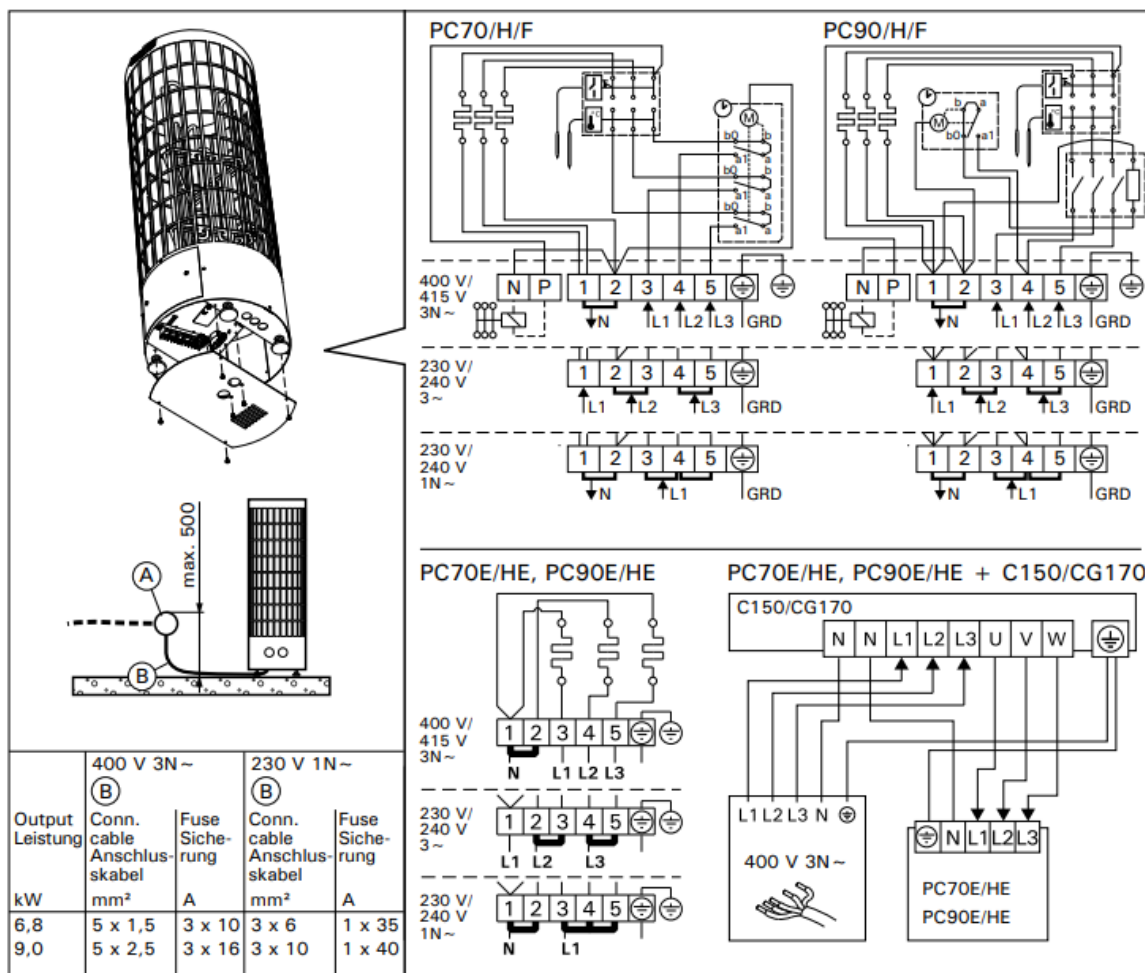

Figure 7. Electrical connections
- The heater is semi-stationarily connected to the junction box (Figure 7: A) on the sauna wall. The junction box must be splash-proof, and its maximum height from the floor must not exceed 500 mm.
- The connecting cable (figure 7: B) must be of rubber cable type H07RN-F or its equivalent.
- In addition to supply connectors, the PC/- H/-F heaters are equipped with a connector (P), which makes the control of the electric heating possible (figure 7). Voltage control is transmitted from the heater when it is switched on. The control cable for electrical heating is brought directly into the junction box of the heater, and from there to the terminal block of the heater along a rubber cable with the same cross-section area as that of the connecting cable.